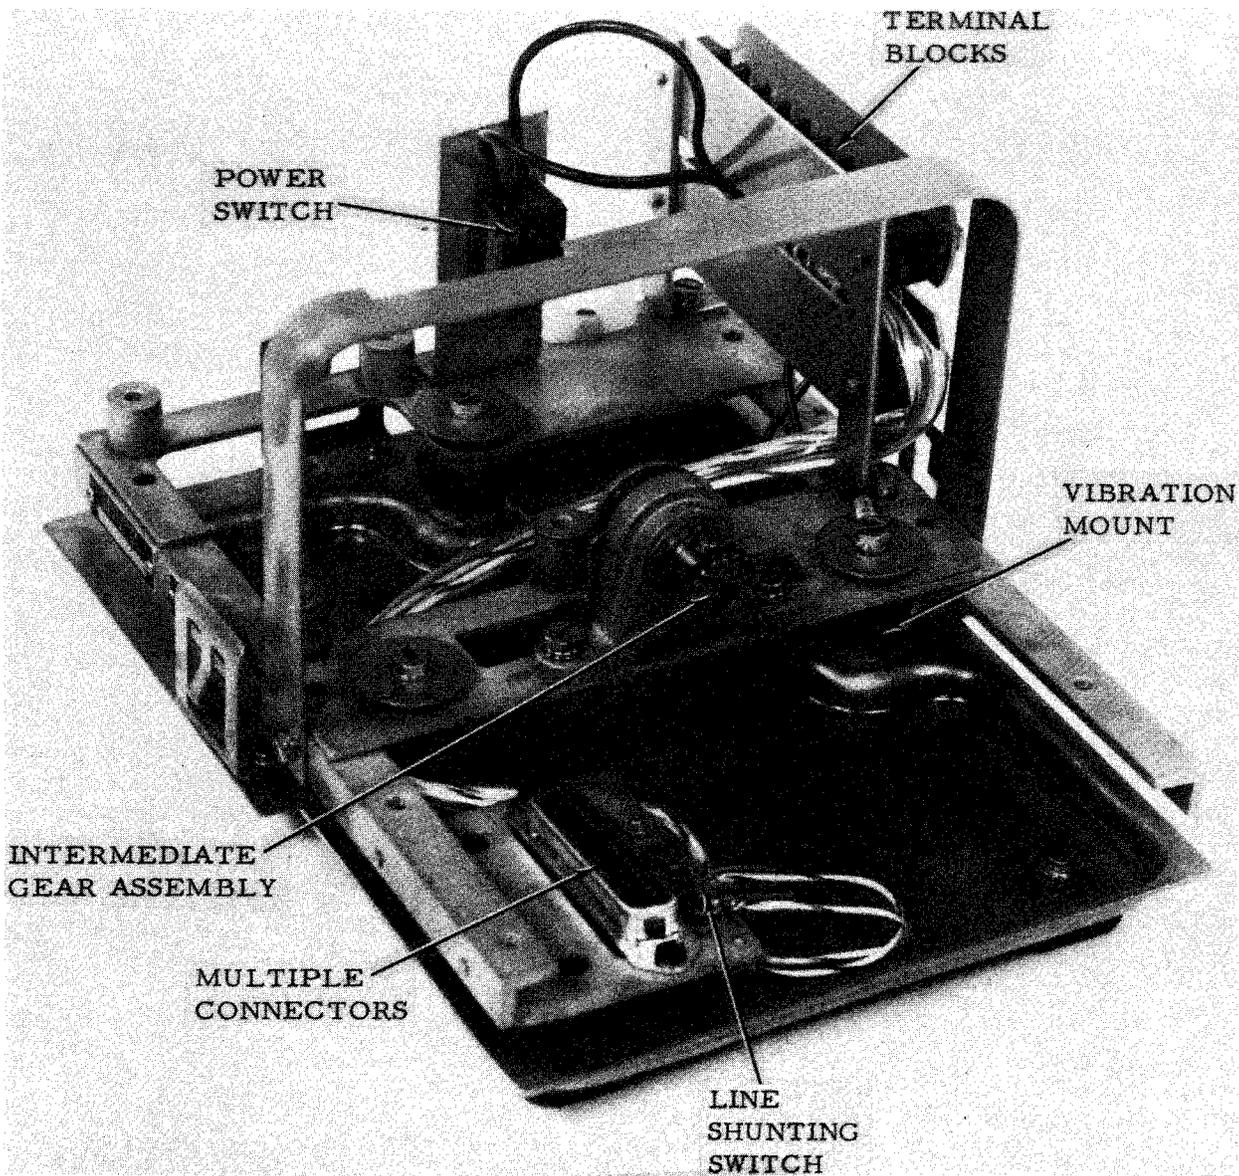

Figure 1-12. Transmitter Distributor Base - Miniaturized
(3) Miniature Base. This base is designated miniature because of its compactness (figure 1-12). The mounting facilities for a